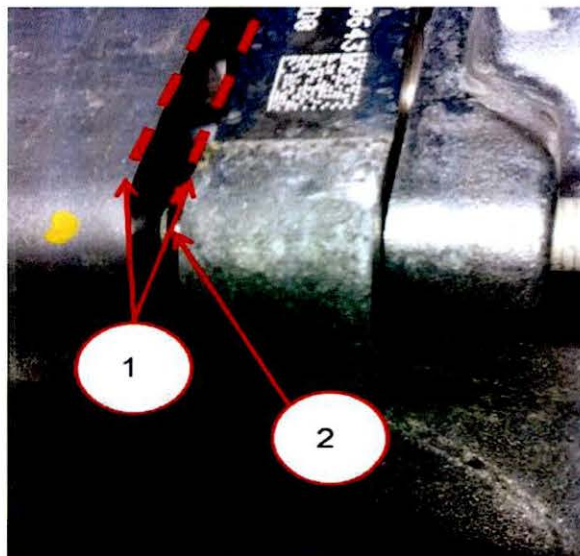
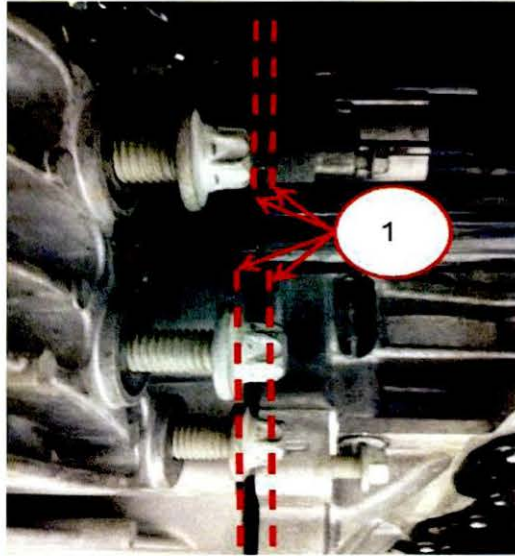

Fig. 7 Transaxle to Engine Gap
Fig. 8 Transaxle to Engine Gap (2)
23. While supporting the transmission to provide a consistent gap to the engine, separate the transaxle from the engine approximately 5 - 10 mm (0.20 - 0.59 inches) until the doweled locations are separated (Fig. 7) and (Fig. 8).